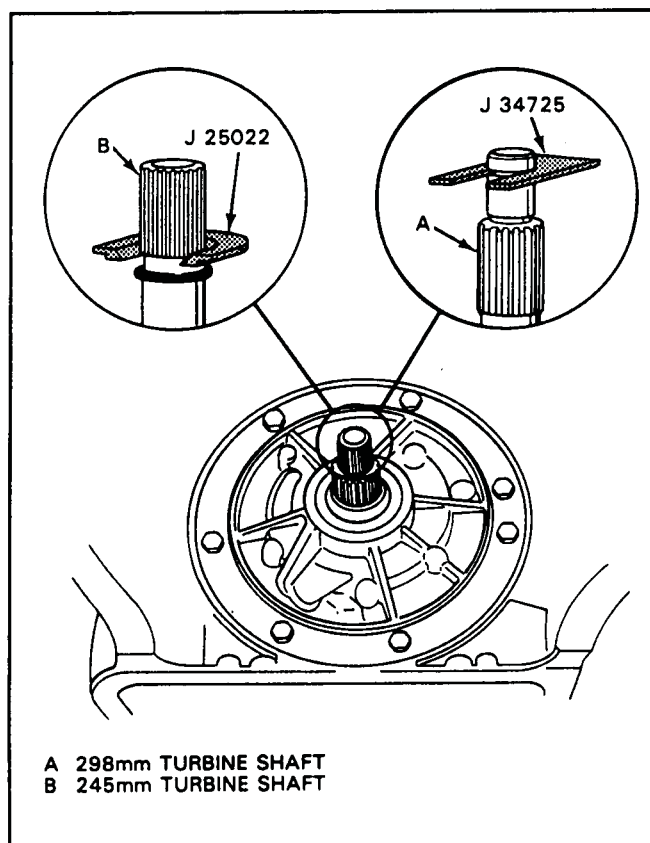

Figure 180
2. Install J-25022 adapter, or J-34725 adapter on turbine shaft, as shown in Figure 180.